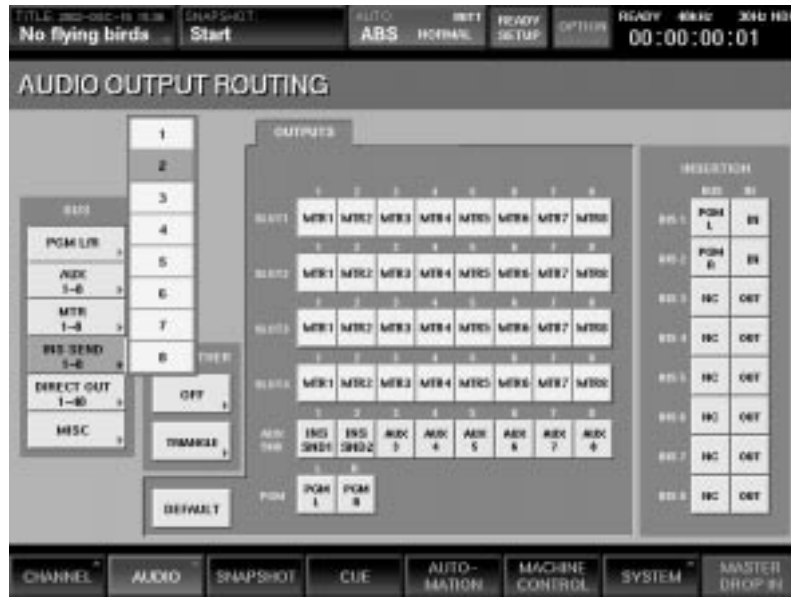

Figure 27
- Now press 2 in the INS SEND 1-8 Bus drop-down menu, and press AUX SEND 2 in the Outputs section. INS SND2 will be selected for Aux Send 2. (See Figure 27)